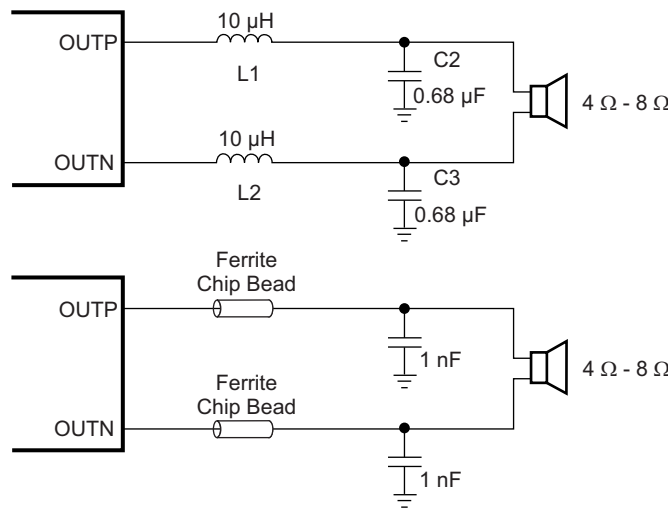

Figure 31. Output Filters
- Output filter — The ferrite EMI filter (see Figure 31) should be placed as close to the output terminals as possible for the best EMI performance. The LC filter should be placed close to the outputs. The capacitors